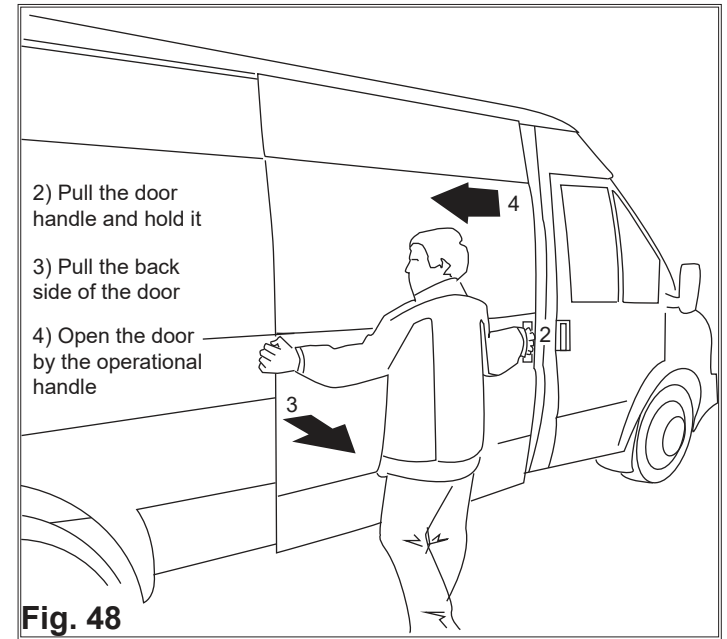

Fig. 48
2. Pull and hold the door handle (Fig. 48).
3. Pull the left-hand part of the door towards you (Fig. 48).
4. Open the door with the door handle to the left, (Fig. 48).